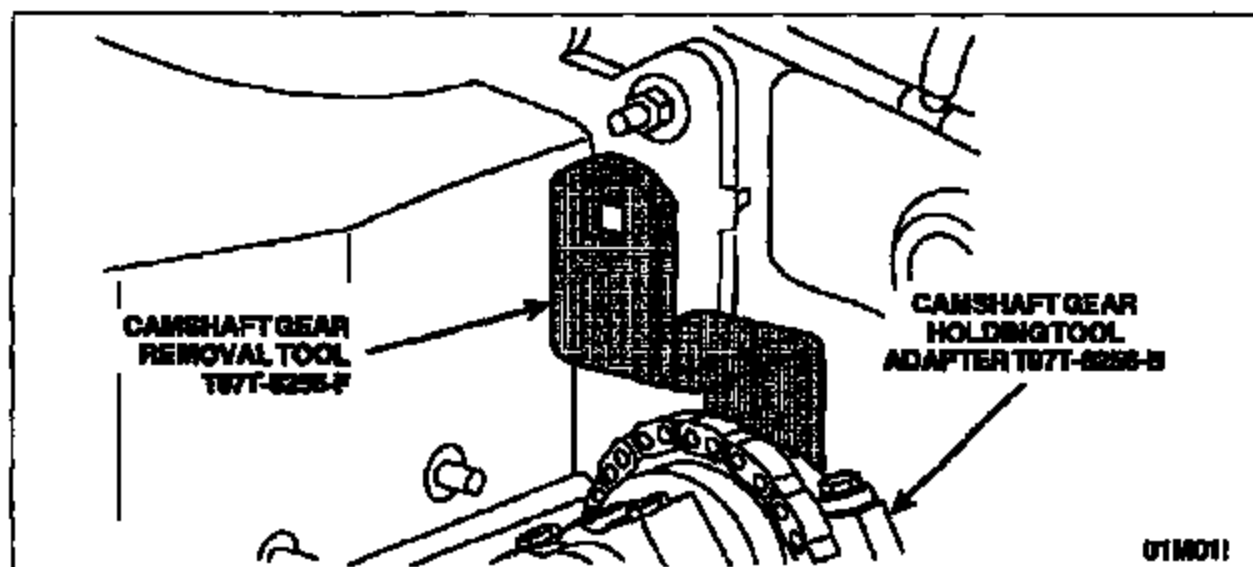

FIGURE 8
12. Using Camshaft Gear Removal Tool T97T-6256-F, loosen the RH camshaft sprocket bolt. Loosen the top bolts of Camshaft Gear Holding Tool T97T-6256-B. See Figure 8.